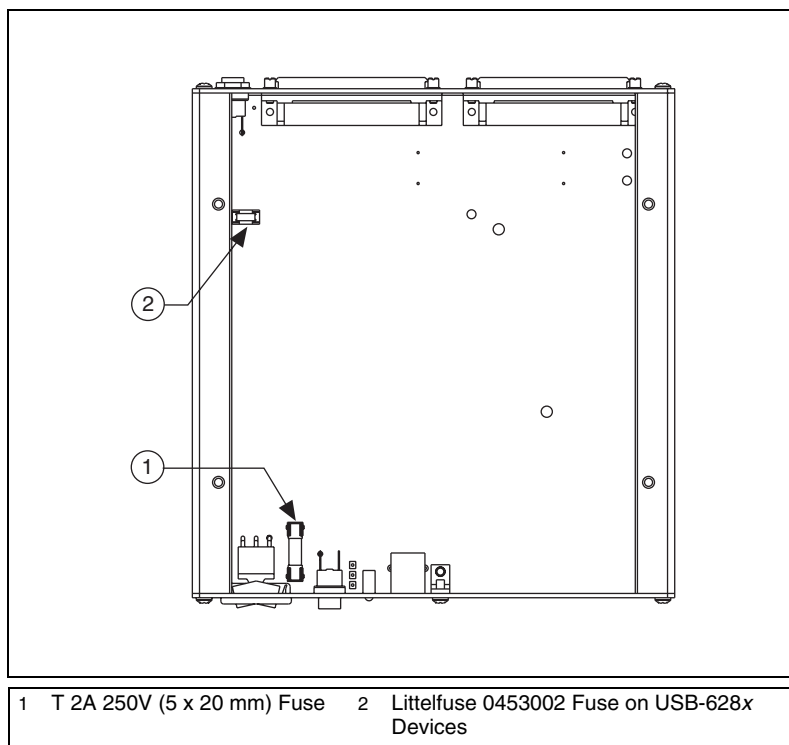

Figure 3-7. USB-62xx Mass Termination Fuse Locations
3. Replace the broken fuse while referring to Figure 3-7 for the fuse locations.